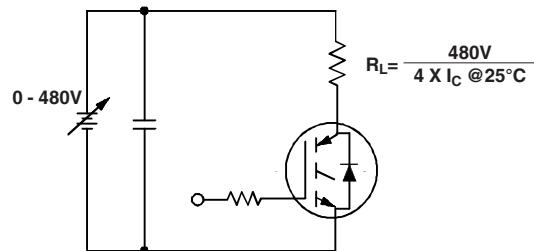

図20 20.
- ① Repetitive rating:  $V_{GE}=20V$ ; pulse width limited by maximum junction temperature (figure 20)